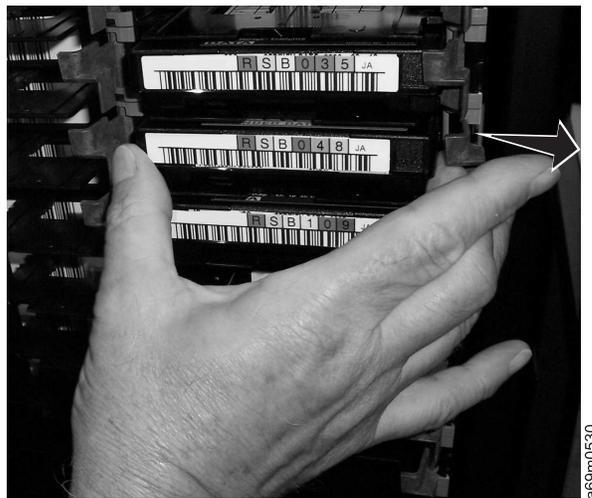
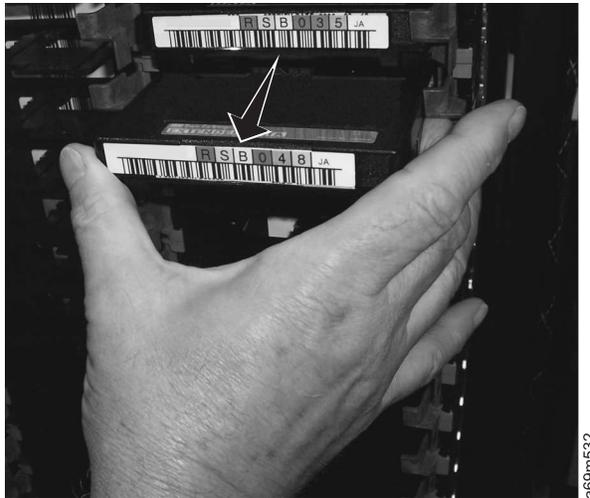

Figure 40. 3592 HD slot gate release
Figure 41. 3592 cartridge removal from an HD slot
- a. See Figure 40. Use the middle finger and thumb on your right hand to grab the cartridge as shown. Apply outward pressure with the middle finger to open the cartridge gate assembly as you release and slowly remove the cartridge as shown in Figure 41 on page 94.